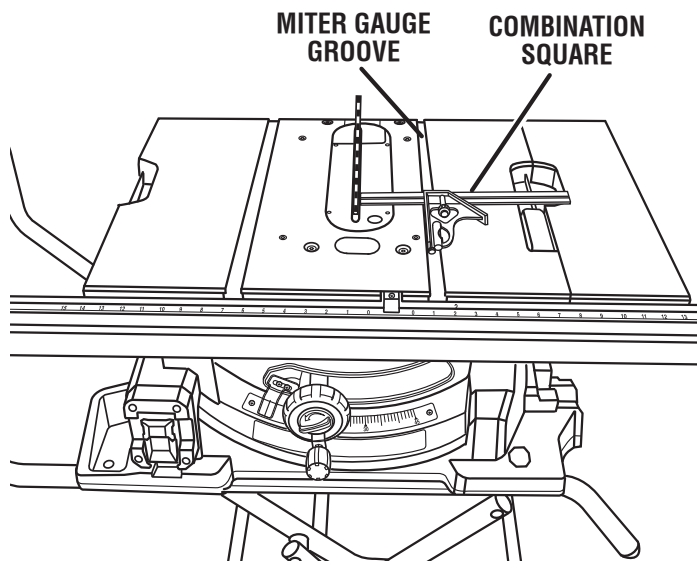

Fig. 41
See Figures 41 - 43.
- Mark beside one of the blade teeth at the front of the blade. Place the body of a combination square against the miter gauge groove as shown in figure 41. Measure the distance from the blade tooth to the right miter gauge groove.